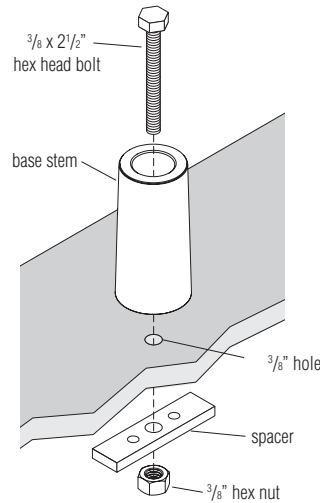

Figure 5
E. Base stem mounted through $\frac{3}{8}$ " hole in worksurface using $\frac{3}{8}$ " hex nut (Figure 5).